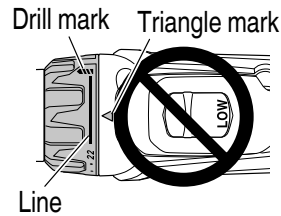

Fig. 13
- Do not use with the clutch dial numeral between “22” and the line at the middle of the drill mark. Doing so may cause damage (See Fig. 13).